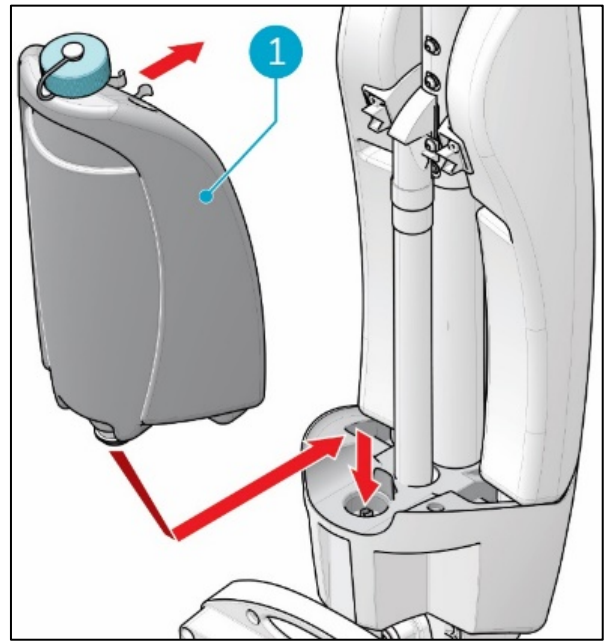

Figure 12
1. Put the tank (Figure 12, pos 1) on the i-mop® XXL plus with the valve first.